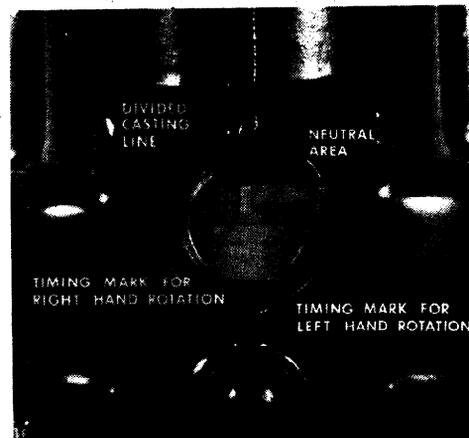

Figure 1. Alignment of Magnet Marks —
- b. Continue turning the engine slowly, still in the direction of normal rotation, until the proper timing mark on the rotating magnet is centered in the viewing hole. Figure 1 illustrates the timing mark centered for a right hand rotation magneto. A left hand rotation magneto would have the left hand mark centered. Eight cylinder magnets will show an "R" line or an "L" line on the rotating magnet through the viewing hole.
- c. Turn engine slowly back toward number one cylinder firing position until proper timing mark on magnet is in center of the viewing hole (See figure 1).